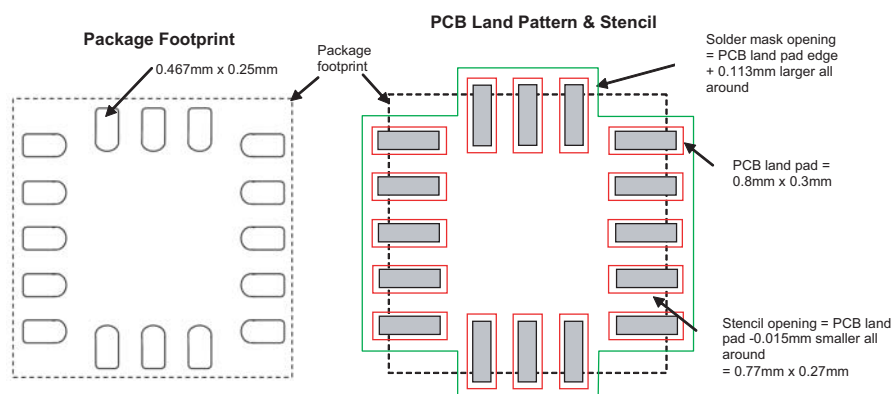
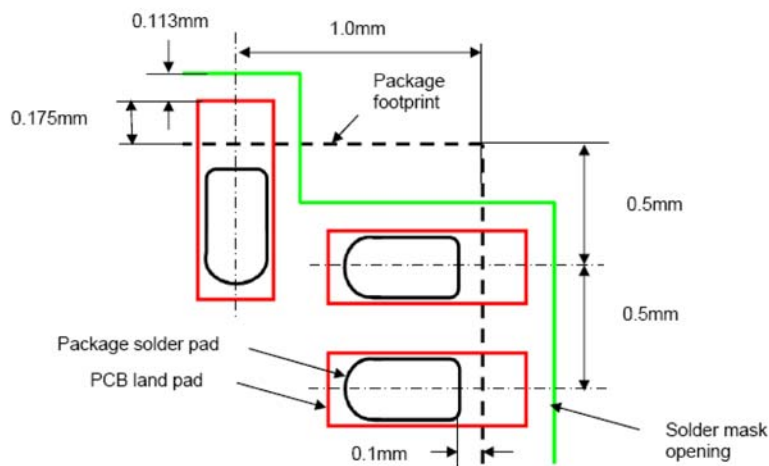

Figure 5. Recommended PCB Land Pad, Solder Mask and Stencil Opening Near Package Footprint
Figure 6. Detailed Dimensions
1. The PCB land should be designed with Non Solder Mask Defined (NSMD) as shown in Figure 5 and Figure 6
3. PCB land pad is 0.8 mm x 0.3 mm as shown in Figure 5 and Figure 6.